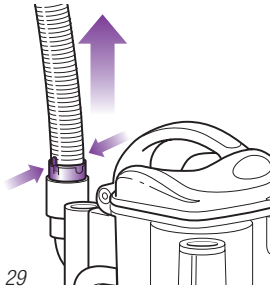

Fig. 29
- Detach the stretch hose from the back of the portable Lift-Away® canister by squeezing the tabs together and pulling up. **(Fig. 29)** Straighten out the hose and look inside for blockages.